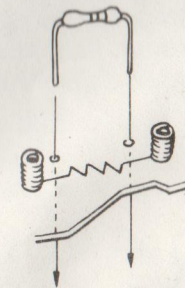

Figure 4
- Mount the resistor by bending its leads and inserting them, from the top of the cardboard panel, through the holes next to the schematic symbol. (See Figure 4.)